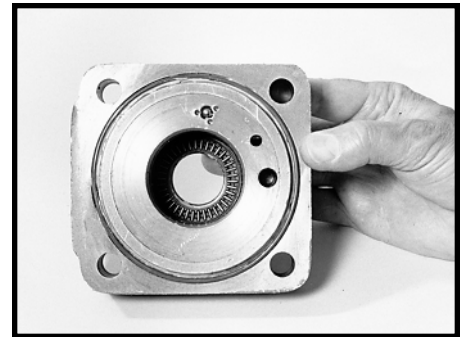

Figure 125
- 22. Apply a generous amount of clean grease to the thrust bearing (12). Install the bearing into the valve housing (9) and onto the first thrust washer, making sure to center the bearing on the washer. SEE FIGURE 125.